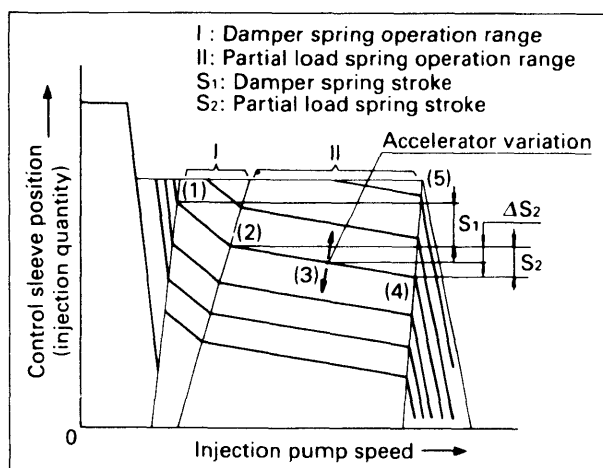

Fig. 29 Combination governor characteristics
(e.g. control sleeve movement from (1) to (2) in Fig. 29)
In the intermediate-high speed range II (where the flyweights' centrifugal force exceeds the damper spring force, but is less than the governor spring's set force) the damper spring is fully compressed, and the partial load spring in the yoke is compressed an amount equal to ΔS_2 (Fig. 29). ΔS_2 varies according to the balance of the flyweights' centrifugal force with each spring's set force (i.e. engine speed and engine load).
Furthermore, if the amount that the accelerator pedal is depressed is altered, the control sleeve position will move in the direction of the arrow in Fig. 29.
Following this engine speed increases and, at the point where the flyweights' centrifugal force balances the combined forces of the yoke springs (point (5) in Fig. 29), the full-load maximum speed of maximum engine output is reached.